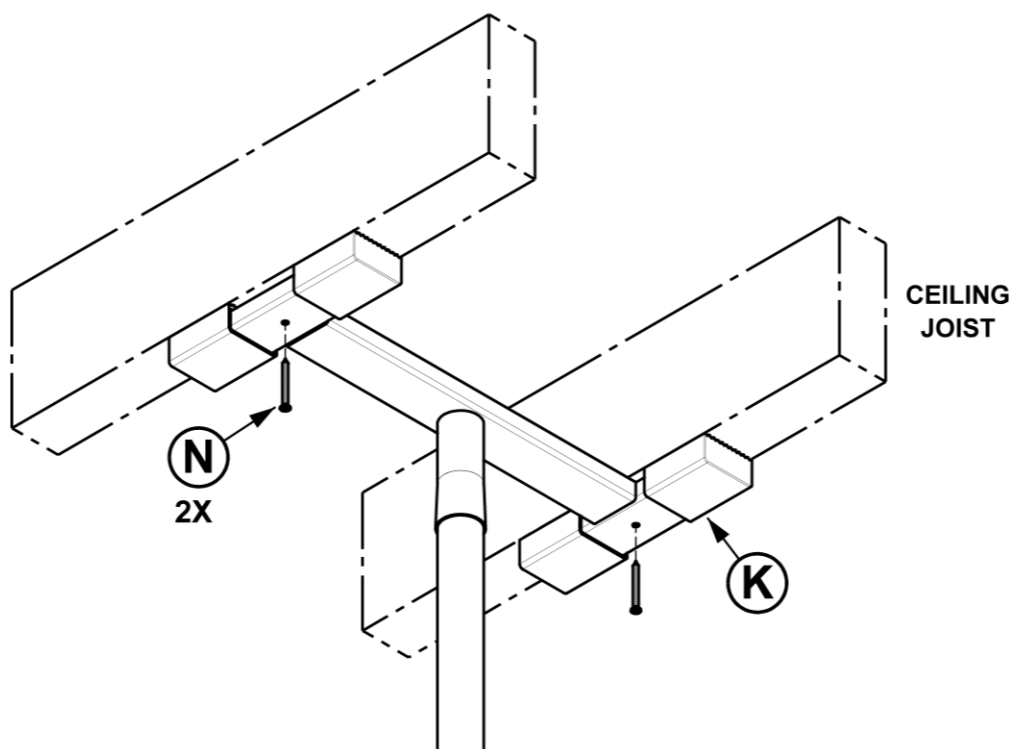

FIGURE 8
8. **OPTIONAL:** Use the provided Screws **N** to fix Top **K** to the ceiling, ensuring that both Screws **N** go into the Ceiling Joists as shown in *FIGURE 8*.